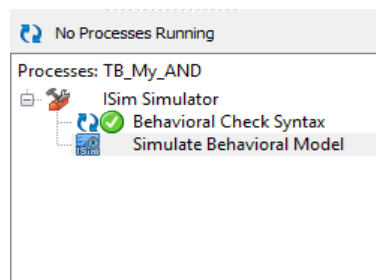

Figure 3.9: ISE Simulator for simulation
- Click on ISE simulator it will open two options as shown in Figure 3.9